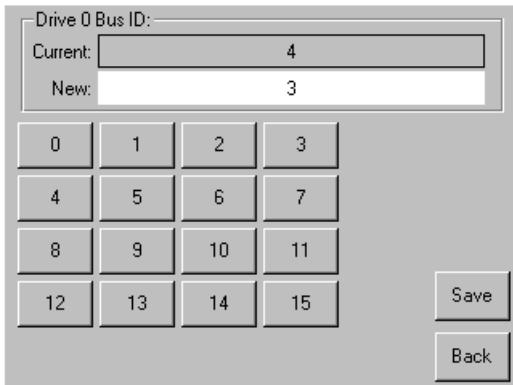

Figure 21 Drive 0 bus ID screen
- a. Select the box next to the text "Drive 0 Bus ID:." The resulting screen (see Figure 21) displays the current Drive 0 Bus ID along with the new value that you request.